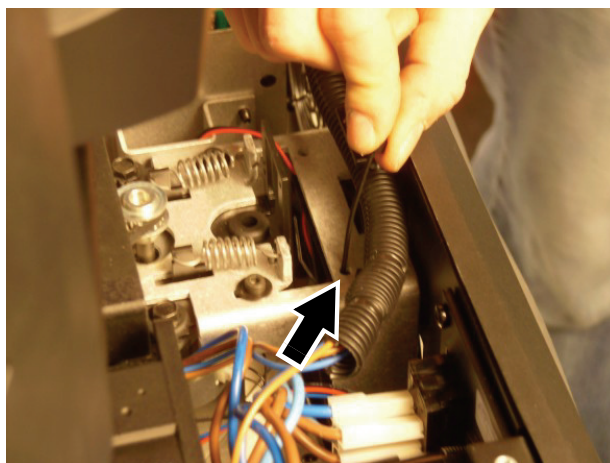

Figure 33
35. See Figure 33. Use a cable tie to fasten the ballast wiring harness in its sleeve along the side panel and well away from all moving parts.